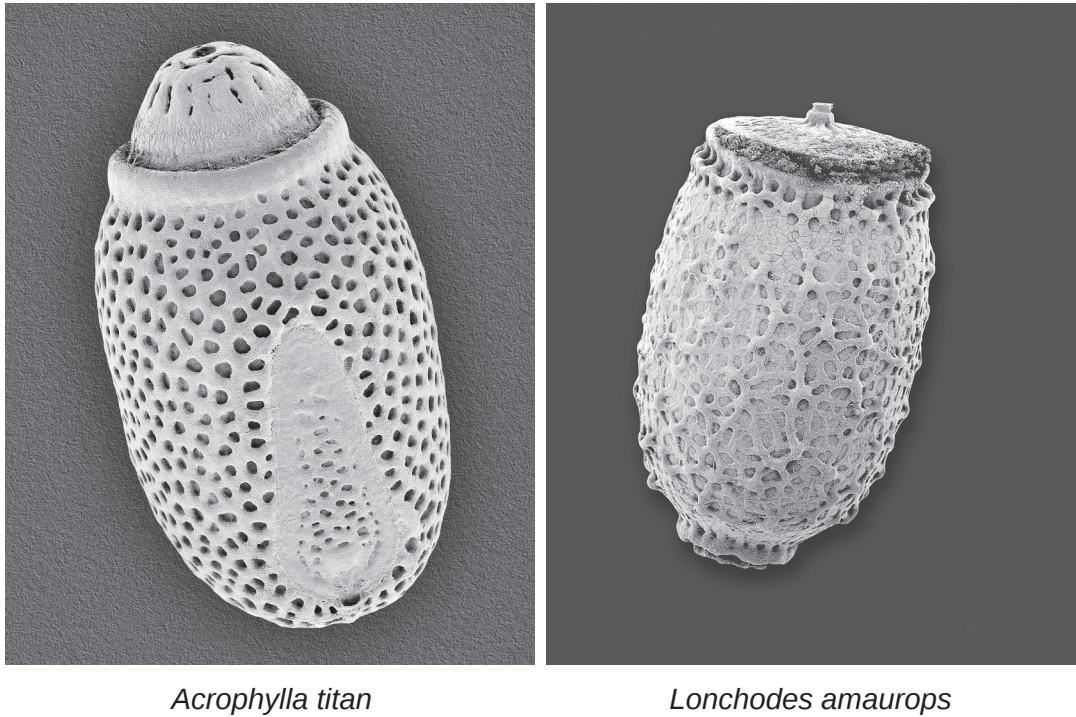

Fig. 2.3
- (iii) Fig. 2.3 shows photomicrographs of the egg cases of *Acrophylla titan* and another species of stick insect, *Lonchodes amauiops*. The magnification of both photomicrographs is the same.
State **three** visible differences between the two egg cases shown in Fig. 2.3.